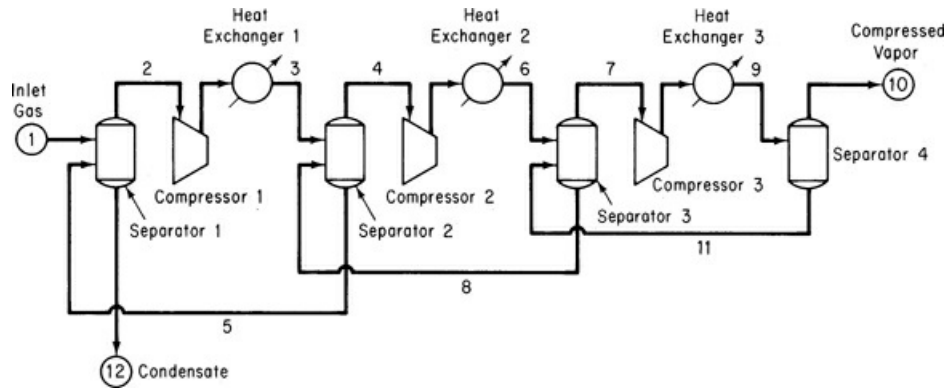

Figure P14.14
14.14 A mixture of three petroleum fractions containing lightweight hydrocarbons is to be purified and recycled back to a process. Each of the fractions is denoted by its normal boiling point: BP135, BP260, and BP500. The gases separated from this feed are to be compressed as shown in Figure P14.14. The inlet feed stream (1) is at 45°C and 450 kPa and has the composition shown. The exit gas (10) is compressed to 6200 kPa by a three-stage compressor process with intercooling of the vapor streams to 60°C by passing through a heat exchanger. The exit pressure for Compressor 1 is 1100 kPa and 2600 kPa for Compressor 2. The efficiencies for Compressors 1, 2, and 3, with reference to an adiabatic compression, are 78%, 75%, and 72%, respectively. Any liquid fraction drawn off from a separator is recycled to the previous stage. Estimate the heat duty (in kilojoules per hour) of the heat exchangers and the various stream compositions (in kilogram moles per hour) for the system. Note that the separators may be considered as adiabatic flash tanks in which the pressure decrease is zero. This problem has been formulated from *Application Briefs of Process*, the user manual for